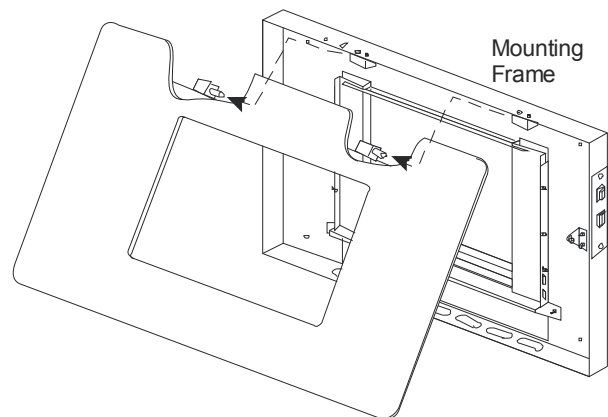

Figure 64
3. Separate the fascia from the mounting frame by opening and sliding it off its hinges as shown in **Figure 64**. Place the glass fascia somewhere safe to prevent damage to it.